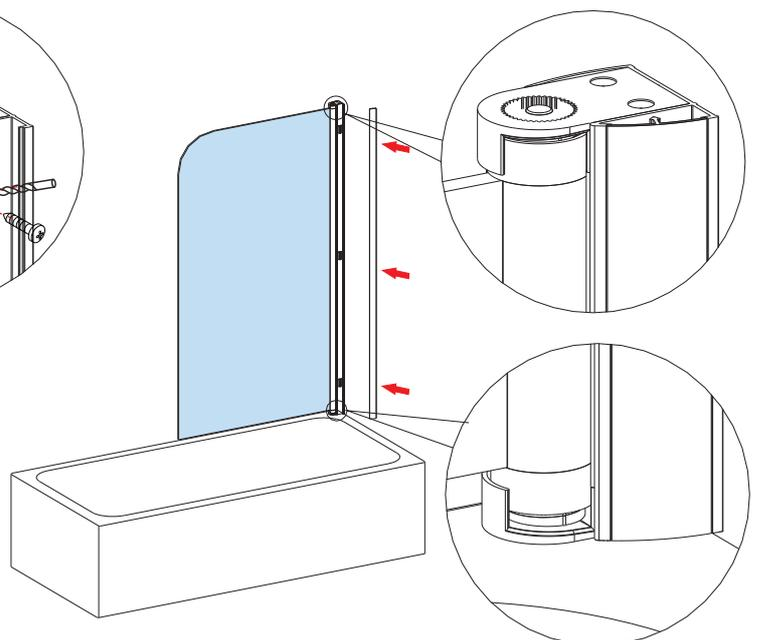

FIG 6
6. Attach the cover strip to the wall profile. Starting at the bottom firmly press cover strip into place and gradually work from bottom to top **FIG 6.**